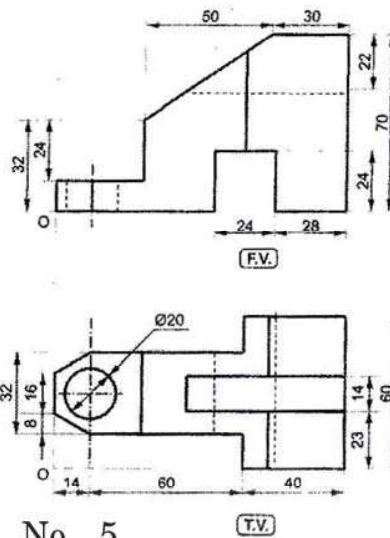

Fig. No. 5
7. The following Fig. No. 5 shows plan and elevation of object according to First Angle Projections Method. Draw its Isometric View. Retain all the Construction lines and Construction you have made.